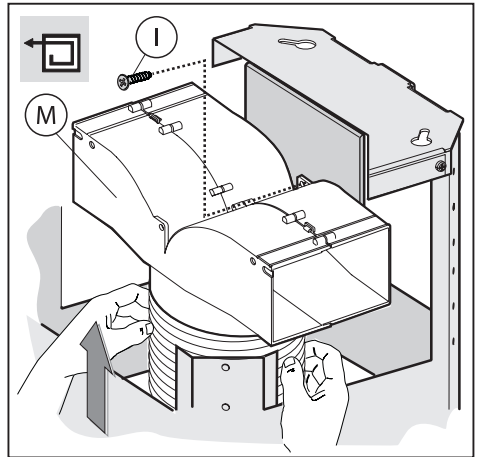
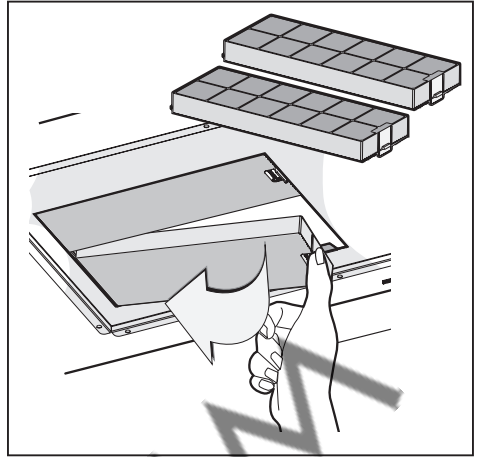
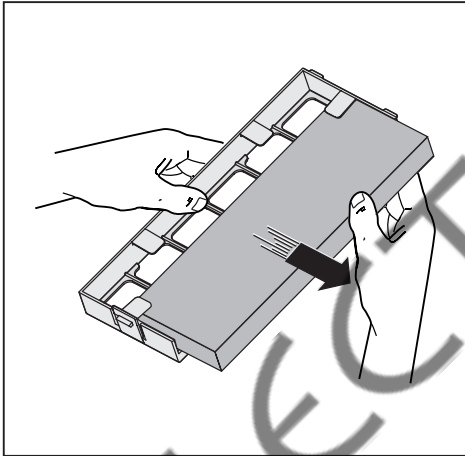

Fig.8
Fig.17
Fig.18
- **Filtering version:** we have two different types of Kit, one with extractable carbon filters (Fig.17) and the other one with re-usable carbon filters (washable) (Fig.18).
- Fix the flexible pipe to the deflector **M** and fix screw **I** as indicated in Fig.8, the active carbon filters must be applied to the suction unit positioned inside the hood (Fig.17).